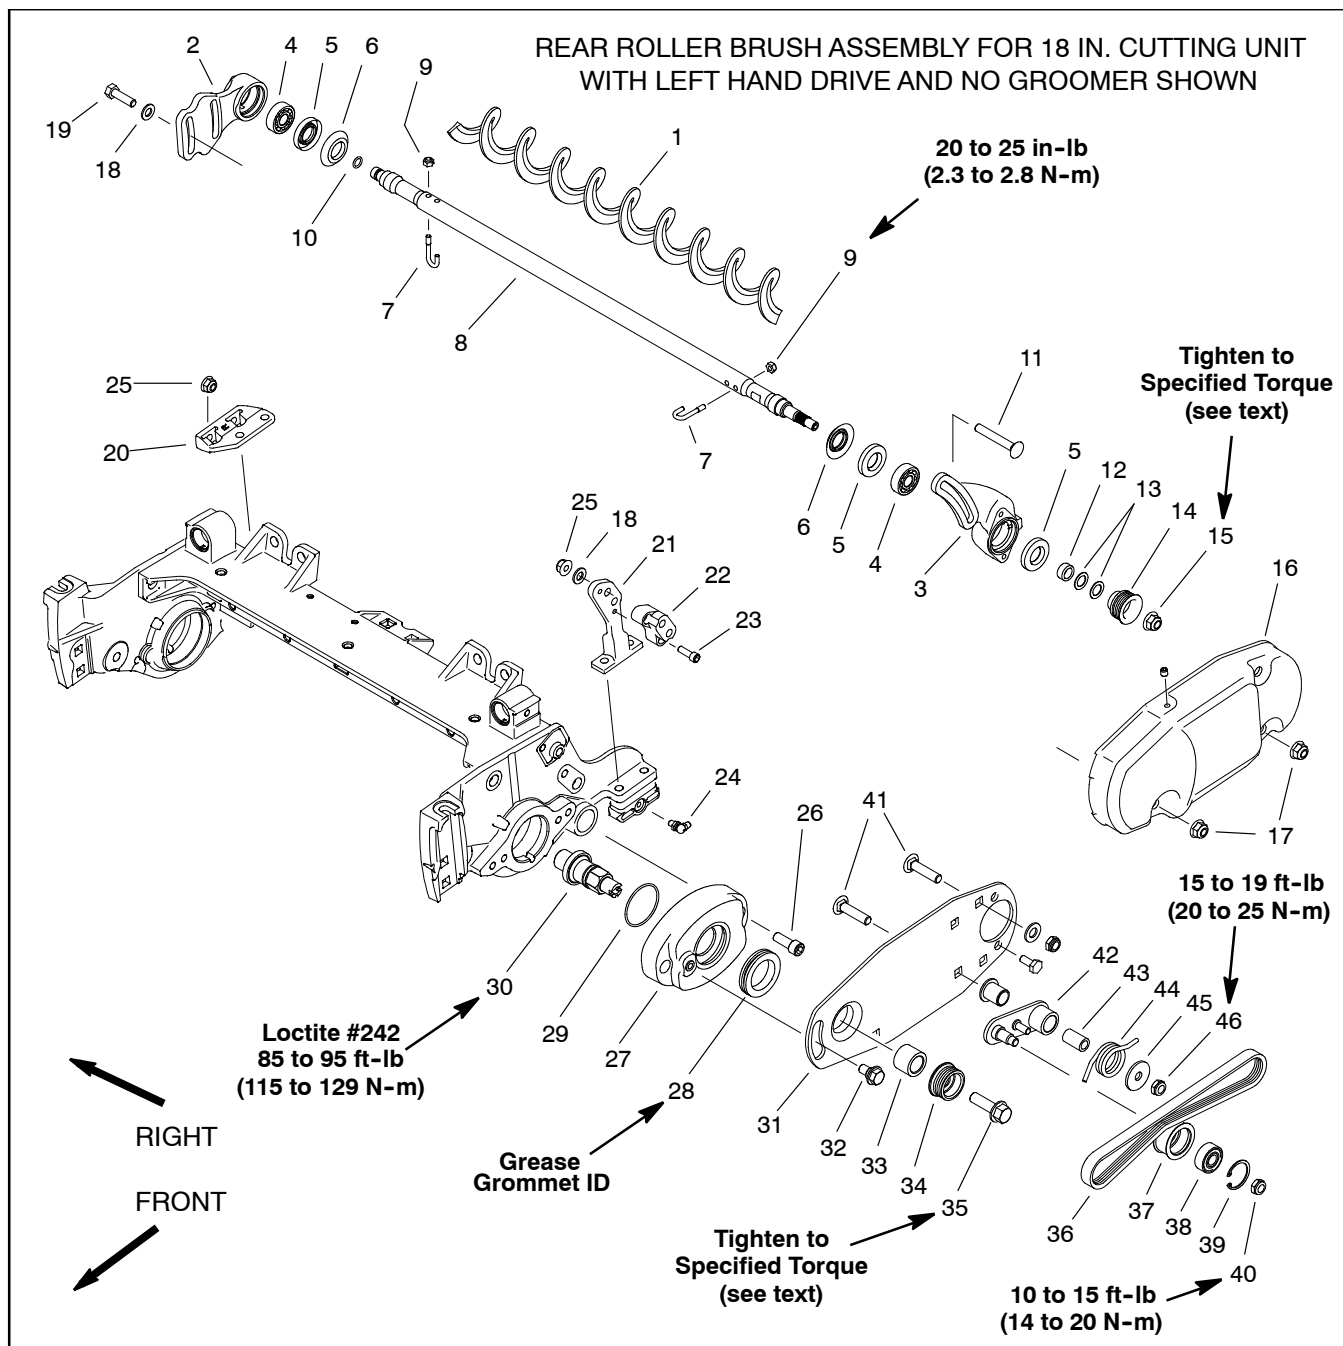

Figure 54
Rear roller brush drive components are located on the opposite side of the cutting unit from the cutting unit hydraulic motor. Figure 54 shows components used when the brush drive is on the left side of the cutting unit.
Disassembly (Fig. 54)
Assembly (Fig. 54)
3. Assemble roller brush components (Fig. 54).